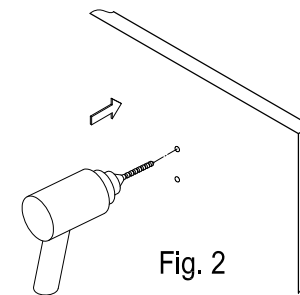

Fig. 2
- Step 4. Remove the template from wall and use a 1/4" drill bit to pre-drill holes in the drywall where pencil marks are drawn (fig 2).